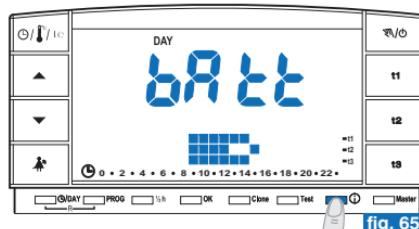

fig. 65
- From the previous screen press **i** again: the display will show the battery charge level (example in fig. 65).
- From the previous screen (fig. 65), press ① again: the display will show a serial number, which is transmitted by the chronothermostat each time data transmission is carried out (example in fig. 67).